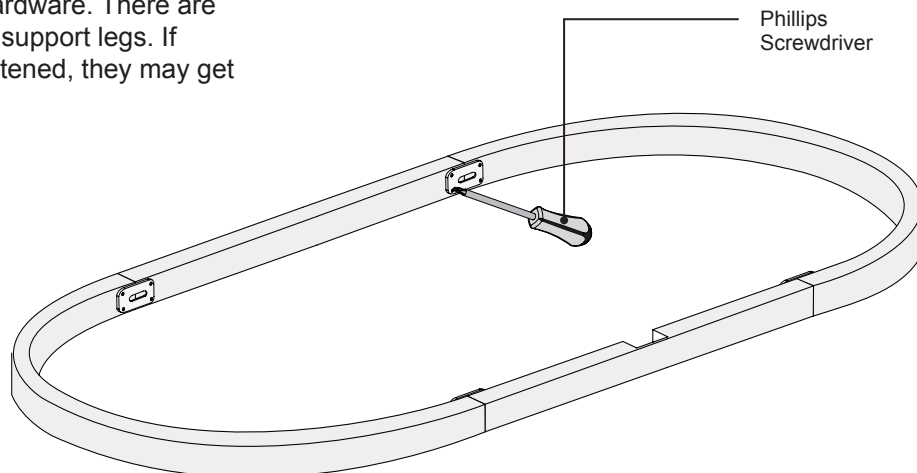

Figure 14. Wood Frame Assembly
- ④ Once all four (4) metal brackets have been attached, use a Phillips head screwdriver to tighten all of the mounting hardware (Figure 14).